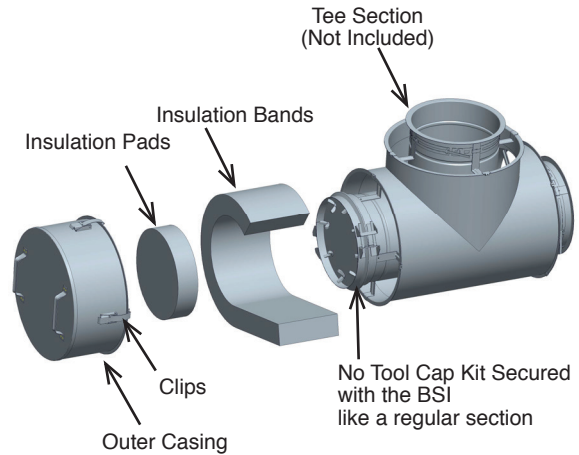

Figure 91- Step 1 & 2 for the No-Tool Tee Cap Installation
- 2- Use the inner V-Band (BSI) to secure the No-Tool Cap Kit to the flange of the 90° Tee (T90, not included) as specified in the JOINT ASSEMBLY section. See Figure 91.